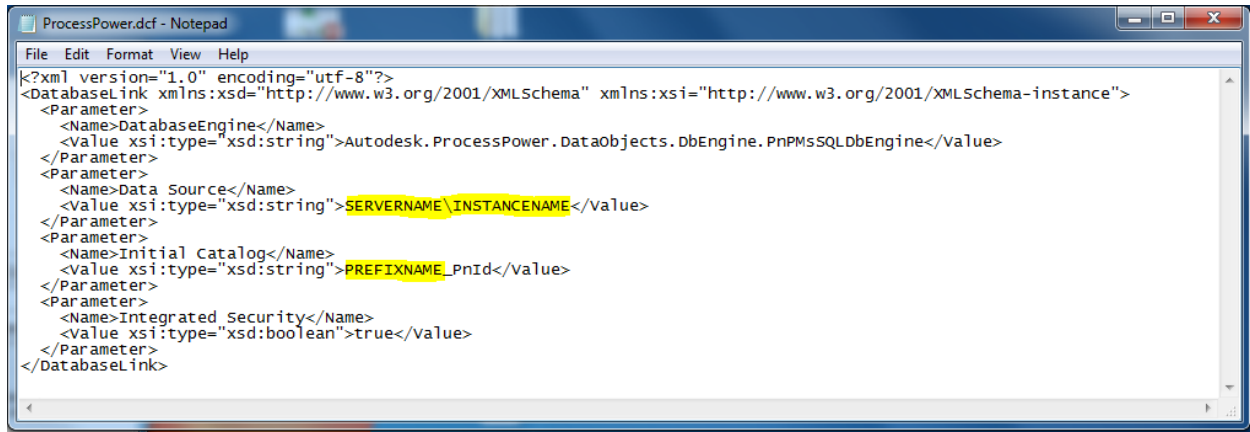

FIGURE 10: PROCESSPOWER.DCF EXAMPLE
12. Enter the new database server and SQL instance name in the "Data Source" value. This value is highlighted in the .DCF figure 10 below as "SERVERNAME\INSTANCENAME"
13. Enter the database prefix name in the "Initial Catalog" value. This value is highlighted in figure 10 as "PREFIXNAME"